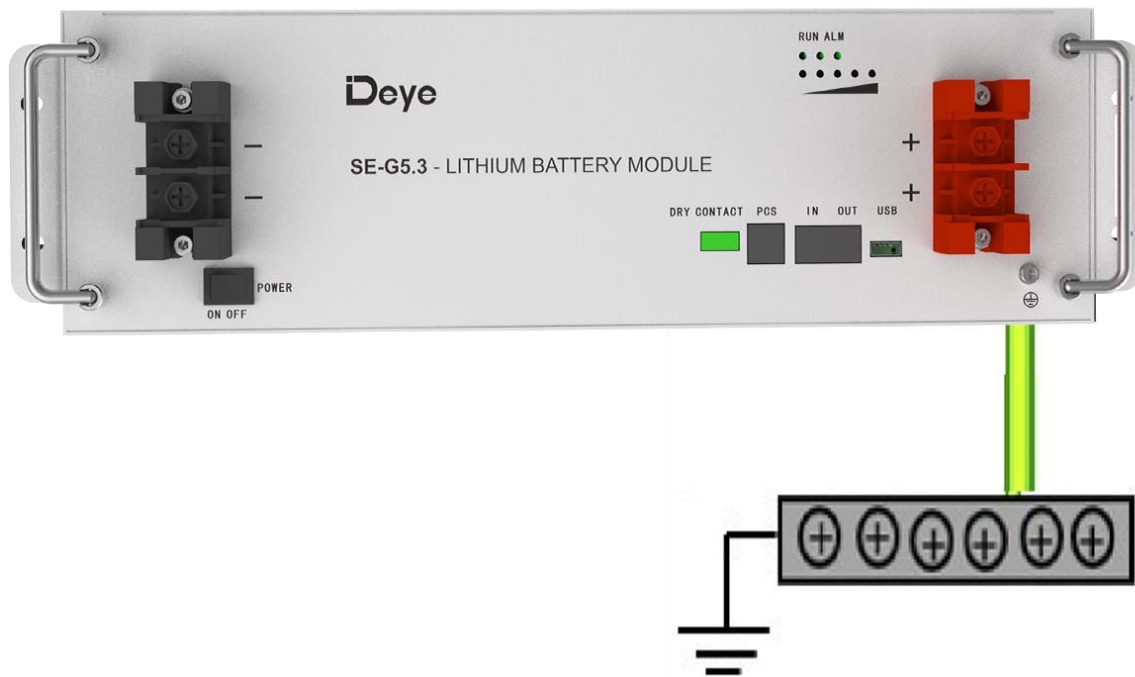

Figure 5-1: Install the Grounding Wire
- The power terminals, such as “+,” “-,” of the module are covered with the protecting cover to guard against a short circuit (Shown in Figure 5-1).